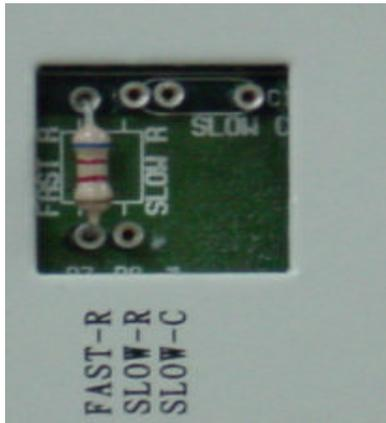

Figure 7
3.1 Example: Refer to Figure 7 for the way of connecting Fast-R pin.